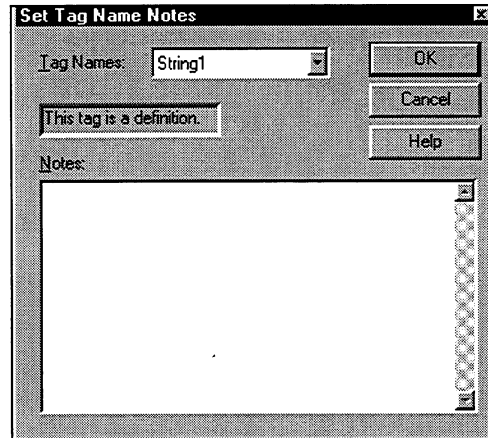

Figure 8-9. Set Tag Name Notes Dialog Box
7. Click OK or press ENTER. The Set Tag Name Notes dialog box displays, as shown in Figure 8-9.